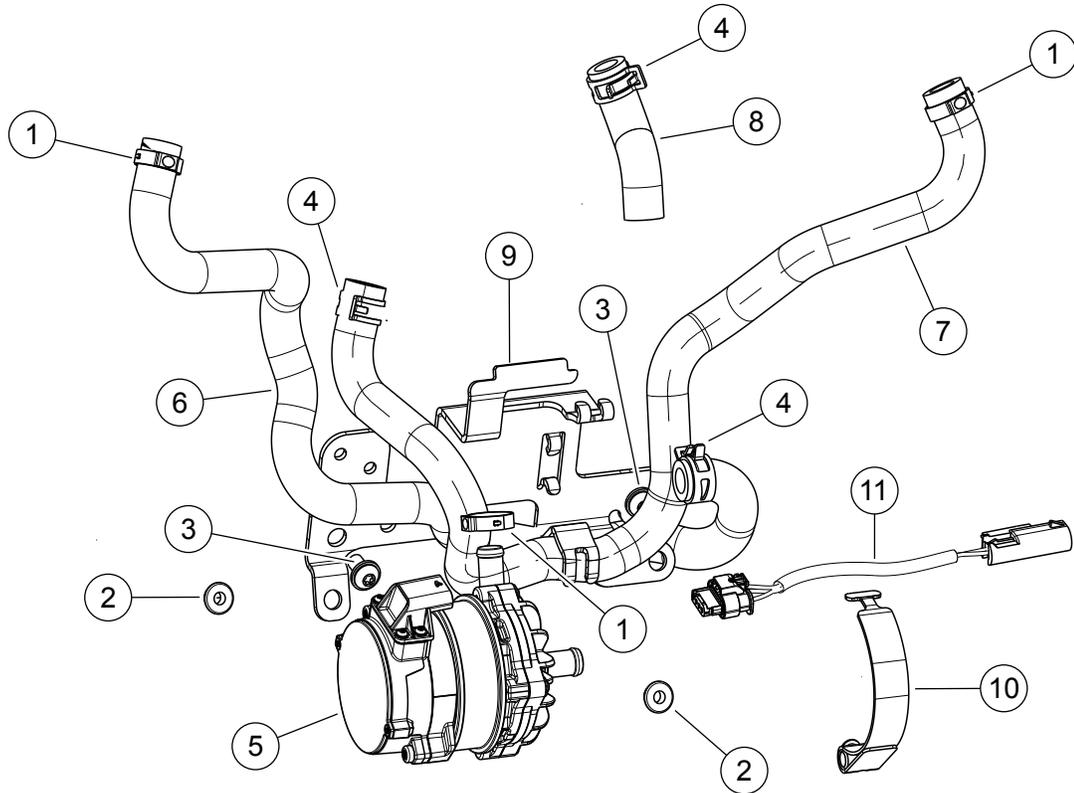

Figure 19. Service Parts: Coolant Pump System Kit
- 8. See Figure 19. Locate pump to engine hose (8) and clamp (1).
- a. See Figure 19. Locate engine to left radiator hose (7), hose clamp (4) and hose clamp (1).
1. See Figure 19. Locate right radiator to pump inlet hose (6), clamp (1) and hose clamp (4).